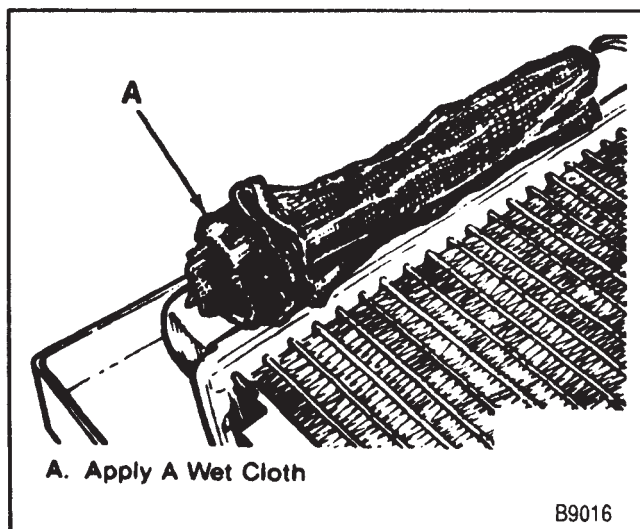
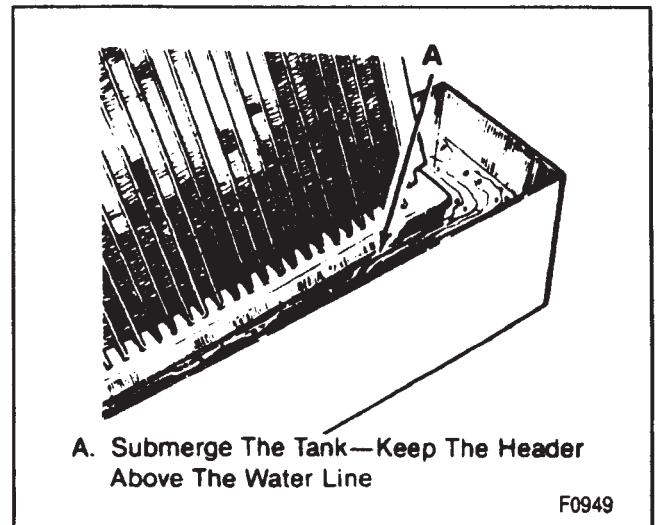

Figure 20—Using a Wet Cloth on a Side Tank
Figure 21—Submerging the Side Tank
If the header or a tube near the header requires a repair, the side tank does not have to be removed. A wet cloth can be placed against the side tank where the repair has to be made (figure 20). The side tank can also be submerged in a tank of water up to the header (figure 21).
2. Apply a wet cloth if you are working near the plastic tanks or the joints between the core tubes and header (figure 20), or submerge the tank in water (figure 21).